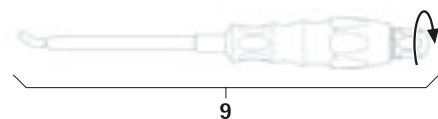

Fig. 13
- Mount rod insertion instrument **9**, see Fig. 13.